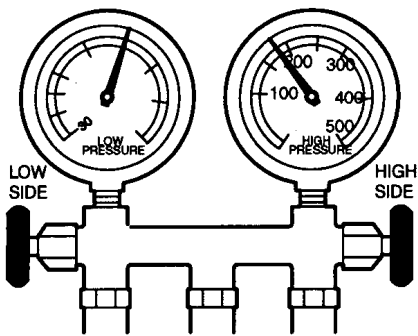

Figure 26 High Suction Pressure-Normal to Slightly Low Discharge Pressure
3. High suction pressure-Normal to slightly low discharge pressure (Figure 26).